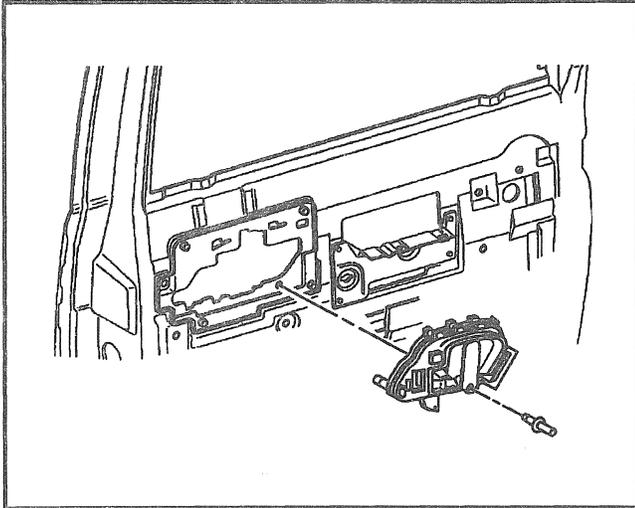

Figure 67—Rear Door Inner Handle Assembly
**Remove or Disconnect (Figures 67 and 68)**
3. Inside door handle assembly (Figure 67).
**Install or Connect (Figures 67 and 68)**
1. Inside handle control rod (1) from the handle and lock lever assembly.
2. Inside lock control rod (2) from the handle and lock lever assembly.